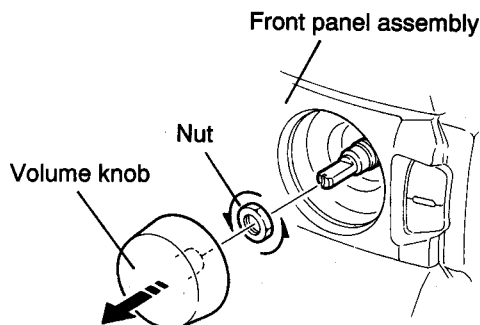

Fig.5-20
(See Figs. 5-20~5-23)
4. Remove the volume knob from the front of the front panel assembly. (See Fig. 5-20)
5. Remove the nut fastening the volume control from the front panel assembly. (See Fig. 5-20)